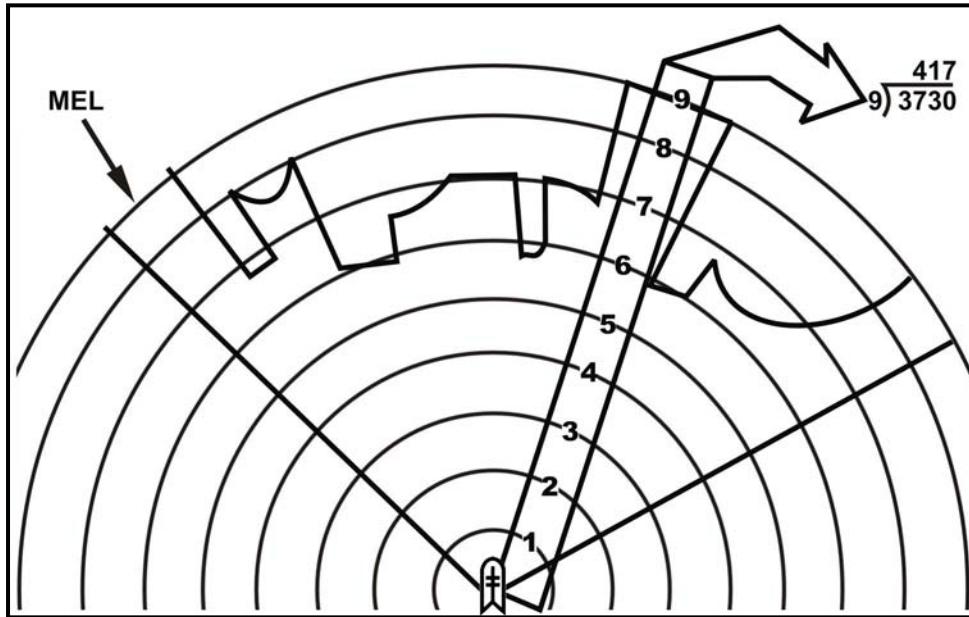

Figure D-4. Determination of distance between circles.
b. Divide the number of circles on a range card (9) into the distance. Round the result to the nearest 10 meters. Enter this number in the data section. (See paragraph D-6). The following are examples:
(1) **Example 1.** If the distance of the farthest point from the designated firing position to the MEL is 3,750 meters, then 9 intervals into 3,750 meters = 416.666 meters rounded up to 420. Therefore, each circle equals 420 meters (Figure D-4, page D-4).